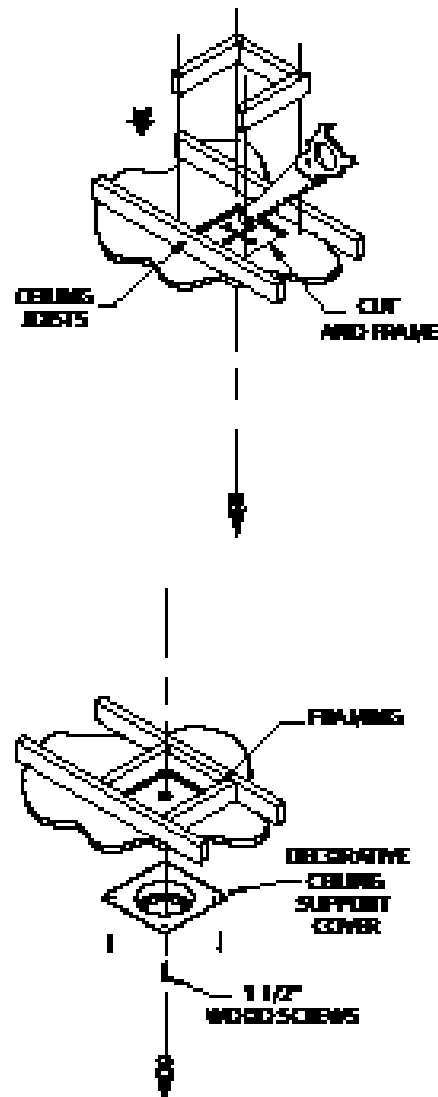

Figure 14
Step 3. To install the Round Ceiling Support/Wall Thimble Cover in a flat ceiling, refer to Table 1, page 8 and cut a square hole in the ceiling (unless otherwise specified by the appliance manufacturer) centered on the hole drilled in Step 2. Frame the hole as shown (Fig. 14).